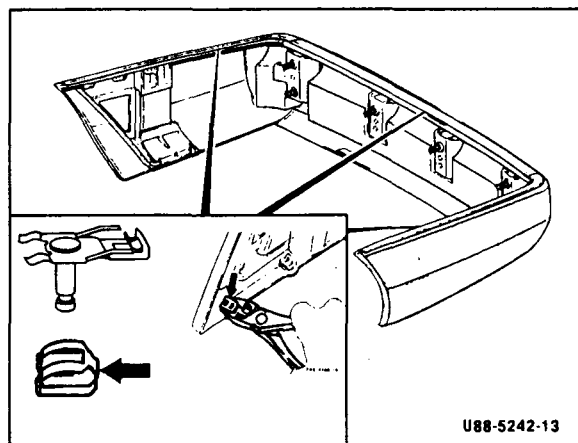

Figure 13
5. Remove clips and chrome moldings (Figure 13), SMS Job No. 88-225.